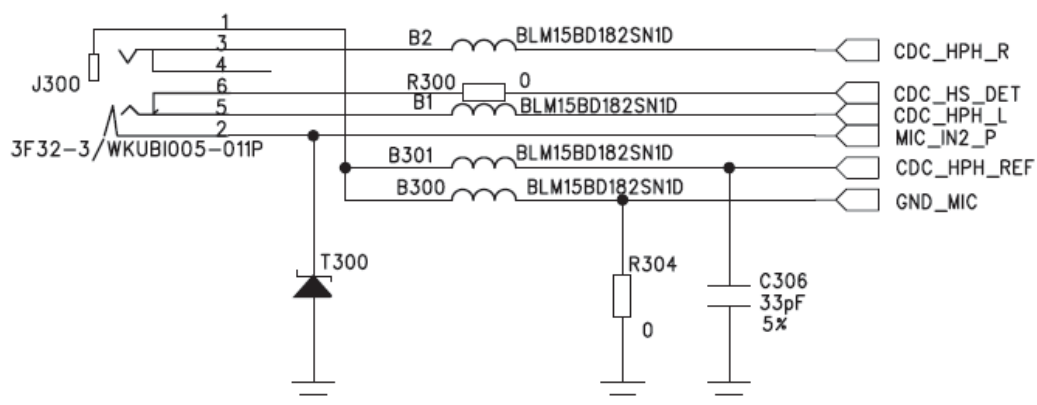

Figure 4.23: Headphone Interface Circuit
1. The earphone holder in Figure 4.23 is normally closed. If the user is using the normally open mode earphone holder, please modify the detection circuit according to the actual pin and modify the software accordingly.